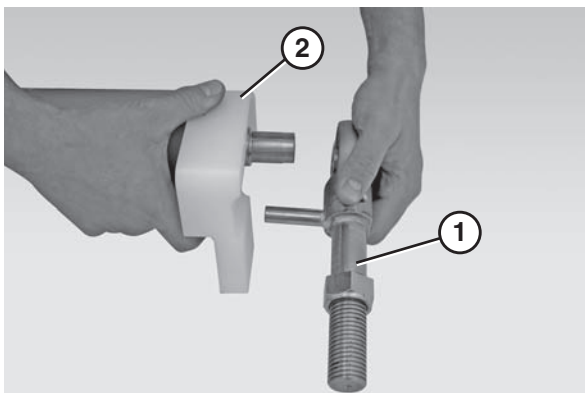

Figure 72
5. Remove the bearing shafts (**Figure 72, item 1**) and both pinch guards (**Figure 72, item 2**).